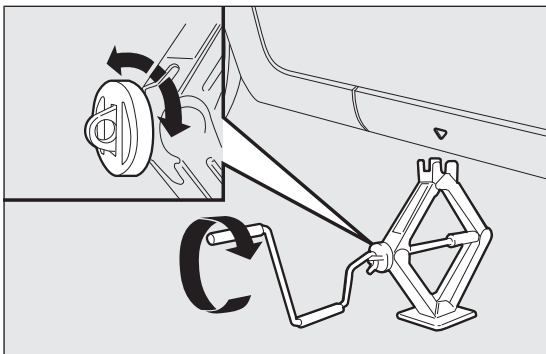
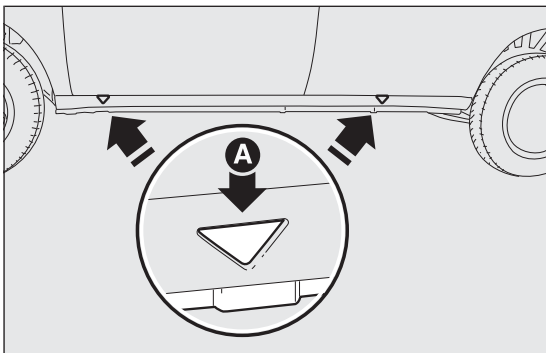

fig. 120
fig. 121
- ☐ turn the jack to open it partially fig. 120 and then position it under the vehicle at the references A fig. 121 near the wheel to be replaced;